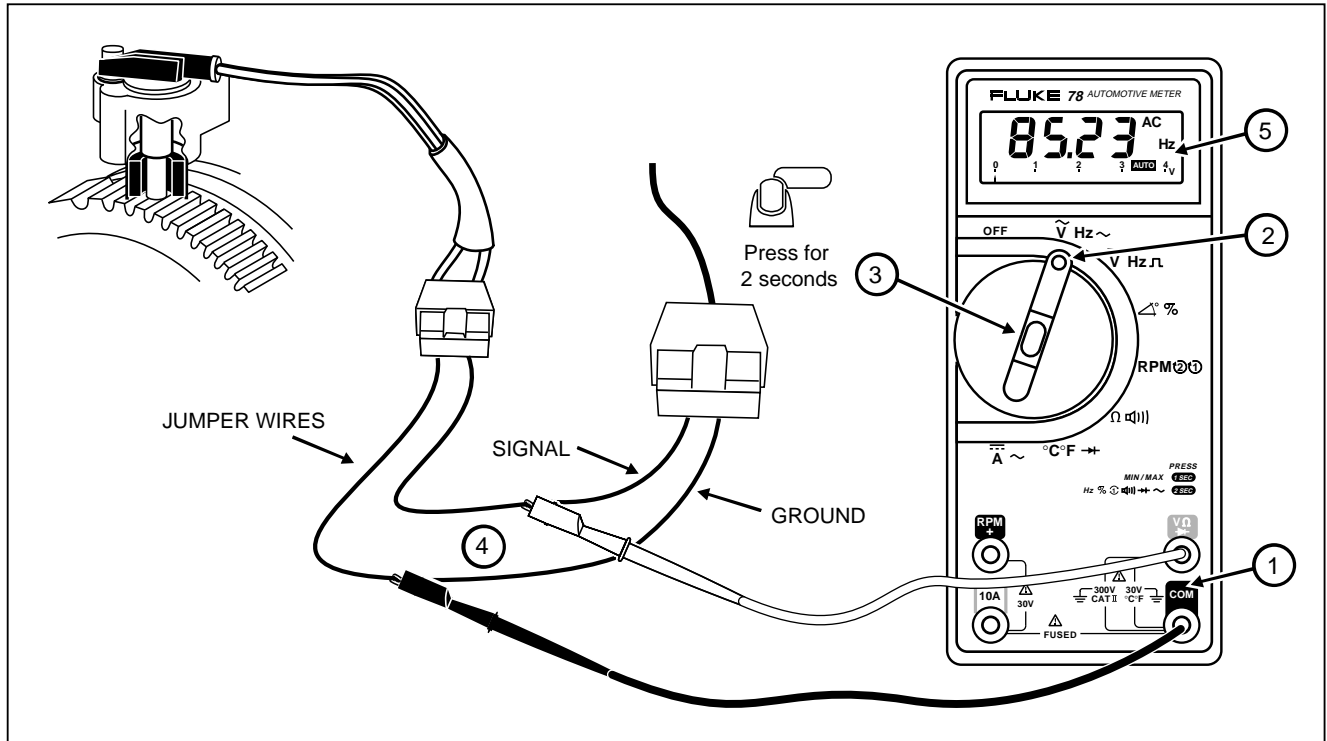

Figure 12. Using AC Coupled-Frequency on a Crankshaft Position Sensor
1. Insert the test leads in the jacks (Figure 12).